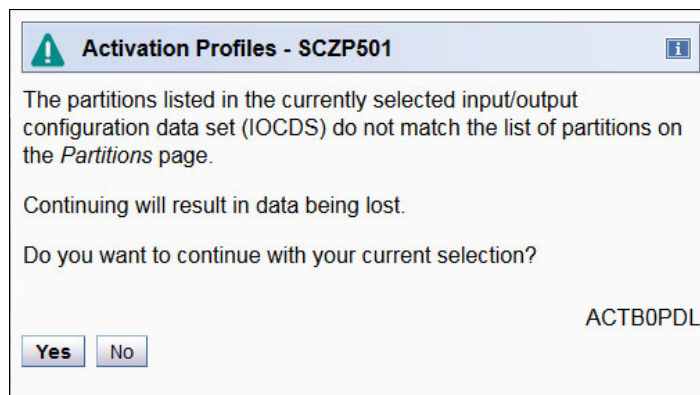

Figure 5-129 HMC - Activation Profiles: ACTB0PDL message
- Click the IOCDS that you updated in the previous step (5.9, “HCD/HMC: Loading the 2964 processor IOCDS” on page 241). The ACTB0PDL message is displayed (Figure 5-129).